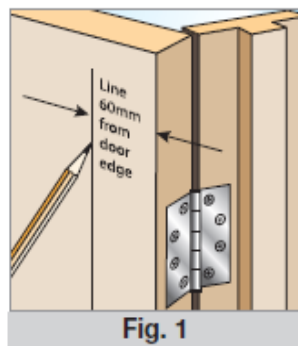

Fig. 1
- 4 Draw a line vertically down the door 60mm from the hinge edge (see fig 1)